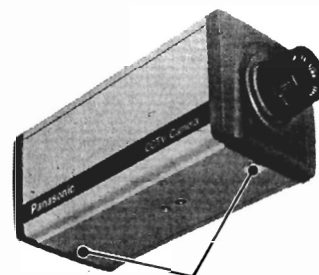

Fig. 1
- Remove two screws fixing the cover and remove the cover. (Fig. 1).